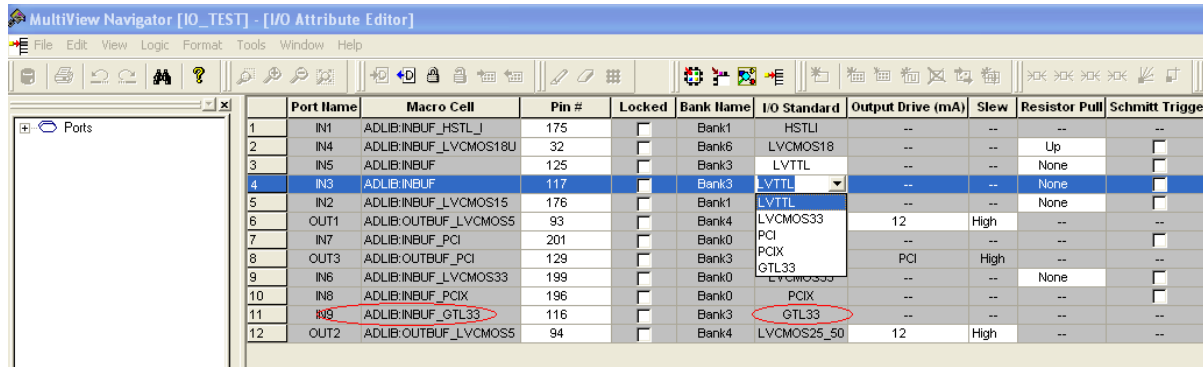

Figure 8-6 • Assigning a Different I/O Standard to the Generic I/O Macro
- Users will need to use the I/O Attribute Editor in Designer to change the default I/O standard if needed (see Figure 8-6 on page 205).
- The I/O standard of technology-specific I/O macros cannot be changed in the I/O Attribute Editor (see Figure 8-6).